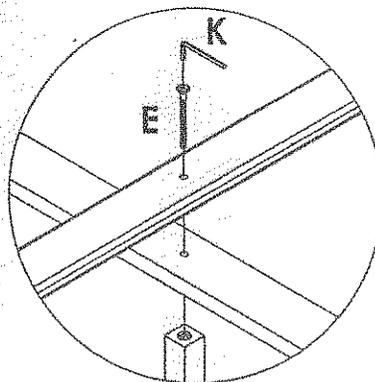

Figure 6
3. Secure **Bottom Wooden Slats** onto **Center Supporter** and **Supporter Legs** by using **JCBC Bolts (E)**, tighten it up by using an **Allen Key (K)** as shown in **Figure 6**.